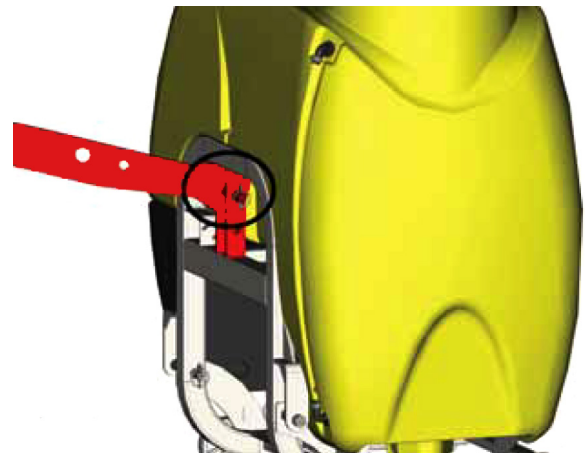

Figure 8
28) Attach the adjustable upper arm of the tractor to the appropriate level of the upper suspension points on the machine chassis and attach the safety pin. **(Figure 8)**
Restrict the swinging of the lower arms with the help of the adjustment lever (Figure 8), and at the same time make sure that the ground heights are equal.